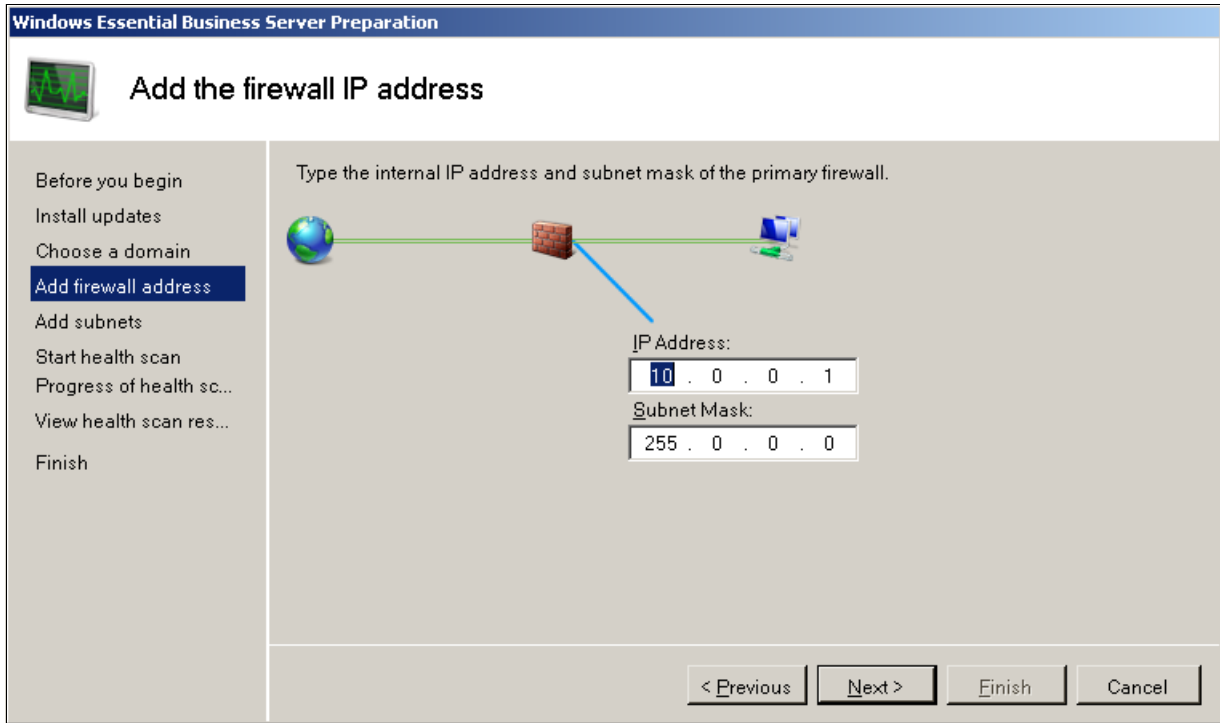

Figure 3-4 Firewall IP address
4. Provide networking details, such as firewall IP address, and additional subnets on the following panels. See Figure 3-4. Click **Next**.